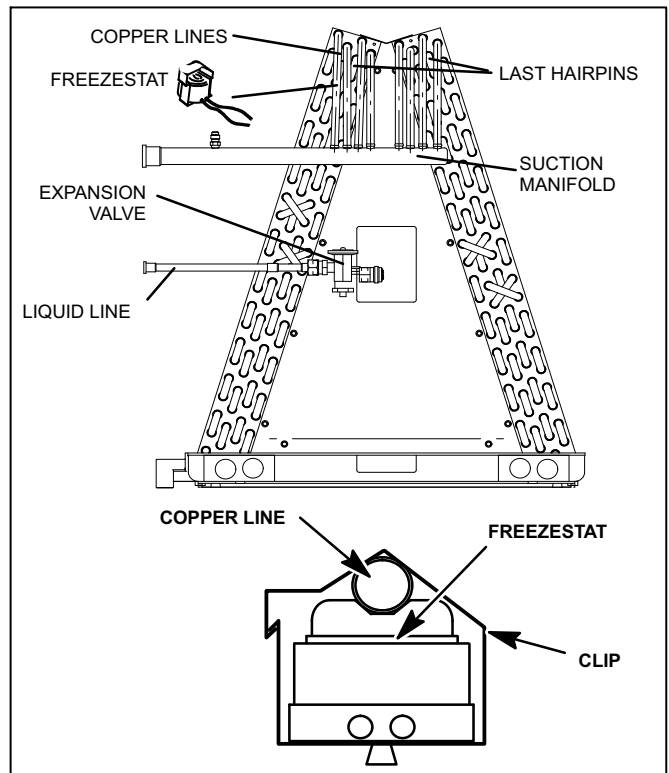

Figure 2. Typical Freezestat (S49) Installation (Indoor Coil)
1. - A freezestat, sized per table 1 and ordered separately, must be installed. Install the freezestat on one of the copper lines between the last hairpins and the suction manifold (see figure 2).